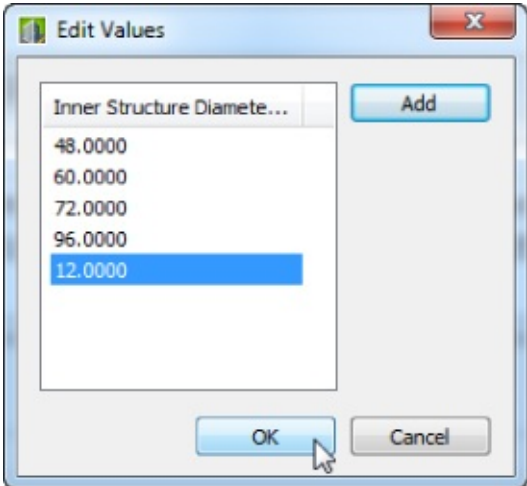

Figure 13.103 Add the 12" (300 mm) value to the Edit Values dialog.
12. In the Edit Values dialog, click Add and type **12** (metric users type **300**), as shown in Figure 13.103.